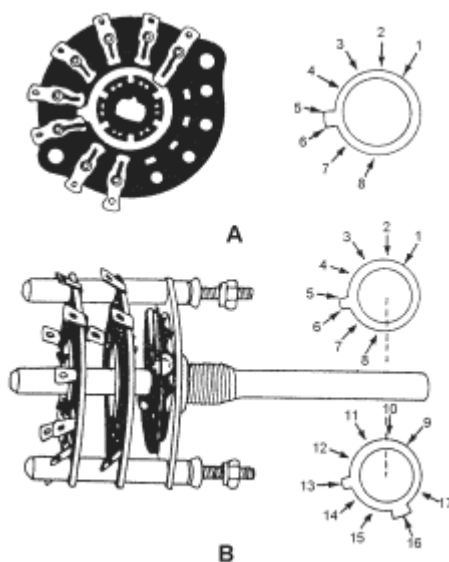

Figure 3-9.—Wafer switch.
Figure 3-9(A) shows one wafer of a wafer switch and its schematic symbol. Contact 1 is the point at which current enters the wafer. It is always connected to the movable portion of the wafer. With the wafer in the position shown, contact 1 is connected to both contact 5 and 6 through the movable portion. If the movable portion was rotated slightly clockwise, contact 1 would only be connected to contact 5. This arrangement is known as MAKE BEFORE BREAK because the switch makes a contact before breaking the old contact.
Figure 3-9(B) is an illustration of the entire switch and its schematic symbol. Since the switch has two wafers mechanically connected by the shaft of the switch, the shaft rotates the movable portion of both wafers at the same time. This is represented on the schematic symbol by the dotted line connecting the two wafers.
The upper wafer of the schematic symbol is the wafer closest to the control mechanism, and is identical to the wafer shown in figure 3-9(A). When switches have more than one wafer, the first wafer shown is always the wafer closest to the operating mechanism. The lower wafer on the schematic diagram is the wafer farthest away from the operating mechanism. Contact 9 of this wafer is connected to the movable portion and is the point at which current enters the wafer. In the position shown, contact 9 is connected to both contact 13 and 16. If the switch is rotated slightly clockwise, contact 9 would no longer be connected to contact 13. A further clockwise movement would connect contact 9 to contact 12. This arrangement is called BREAK BEFORE MAKE. Contact 9 will also be connected to contact 15 at the same time as it is connected to contact 12.